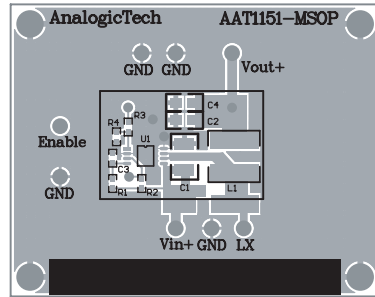

Figure 2: MSOP Evaluation Board Top Layer
The input capacitor RMS ripple current reaches a maximum when V_{IN} is two times the output voltage where it is approximately one half of the load current. Losses associated with the input ceramic capacitor are typically minimal and not an issue. The proper placement of the input capacitor can be seen in the reference design layout in figures 2 and 4.
Figures 2 through 5 display the suggested PCB layout for the AAT1151. The following guidelines should be used to help insure a proper layout.
- Low pass filter R1 and C3 provide a cleaner bias source for the AAT1151 active circuitry. C3 should be placed as close as possible to SGND (pin 2) and V_{CC} (pin 4). See Figures 2 and 7.